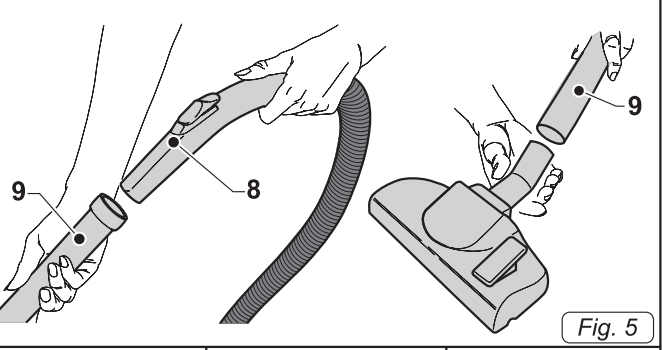

Fig. 5
- Hook the rigid extensions (8 Fig.5) to the ergonomic handle (9 Fig.5) of the flexible pipe.
- Attach the desired accessory (floor tool, dusting brush, crevice tool, multi-purpose brush etc.) to the suction tube (9 Fig.5)